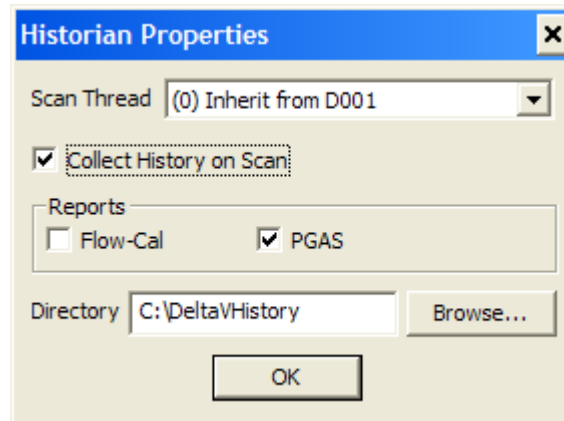

Figure 19- Historian Properties
When a new historian is added, the dialog shown in Figure 19 is displayed. You can select which scan thread should trigger history collection. “(0) Inherit from <device name>” is the default option and assigns the historian to whatever thread was specified in the device configuration. Unless “Collect History on Scan” is selected, history collection will not happen when the thread runs. In this case it will only run when manually triggered by writing to the trigger attribute of the function block. You can elect to generate Coastal Flow and PGAS report by setting their respective checkboxes. You must also specify where the history and report files will be generated. The history files will be named after the station tag in the ROC’s system point.